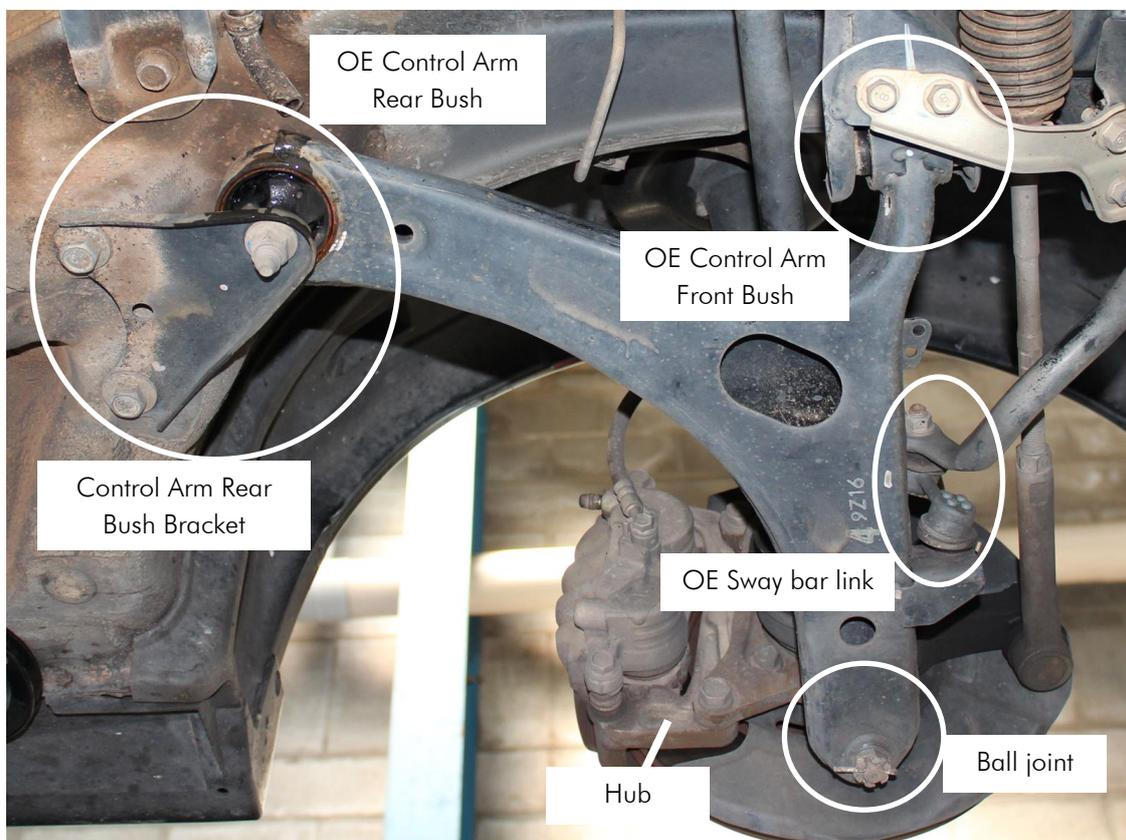

Figure 1 – View from underneath of the vehicle of the Left Hand Side OE Control Arm
- o Remove the front bush bolt, detach the arm from the ball joint on the hub and sway bar link, remove the rear bush bracket and then remove the OE lower control arm. Figure 1 ;